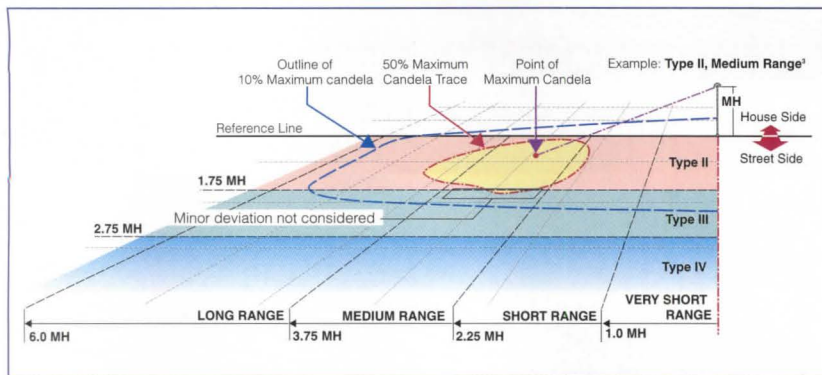

Figure 5: Grid and light patterns to determine Distribution Type
The term "distribution type" defines how far forward of the luminaire (i.e., on the street side) the effective output reaches. The specific classification of distribution types is based on locating the luminaire's effective major output pattern on a grid representing distances in units of Mounting Height (MH) from the luminaire. This pattern is defined by tracing an area representing light distribution at 50% of maximum candela. By measuring where the bulk of this pattern falls on the grid, a luminaire can be classified as follows and as shown in Figure 5. Refer to illustrations of definitions online. (Note that in some cases, minor deviations in a beam pattern may cross the boundary from one type into another. While this has a nominal effect on applied performance, it should not be considered for classification purposes.¹):
Distribution range defines how far the distribution pattern reaches laterally, perpendicular to the axis used to identify general type. The ranges used are defined as follows and indicated graphically in Figure 5.